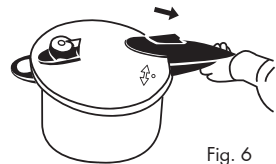

Fig. 6
3. Slide the latch backwards towards the mark on the lid handle to ensure that it is fully closed (Fig. 6).